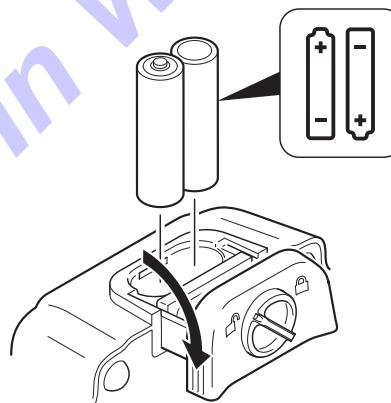

Figure 69 – Install Foot Pedal Batteries
- Install two AA alkaline batteries into the battery compartment in the correct orientation (Figure 69).